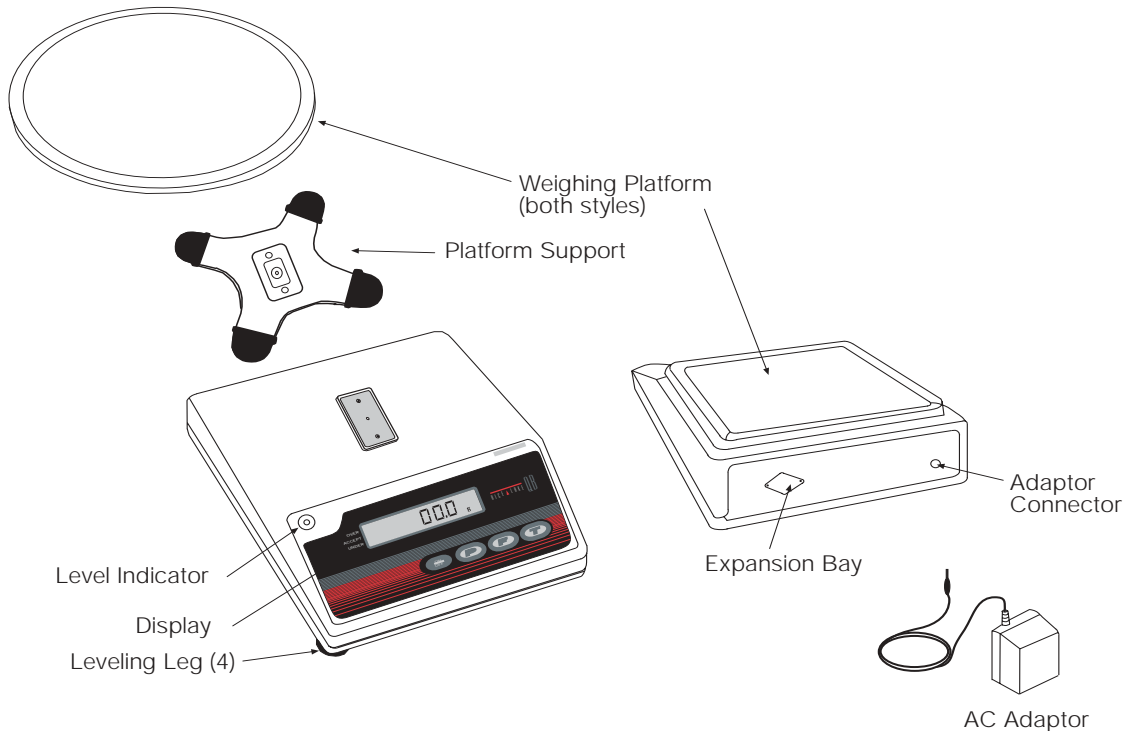

Figure 1-1. Main Component Parts of the QB Series
Each QB Series balance comes with the following components (see Figure 1-1 on page 2).
6. Place the platform cover down over the weighing pan support (see Figure 1-1 on page 2 for exploded view).